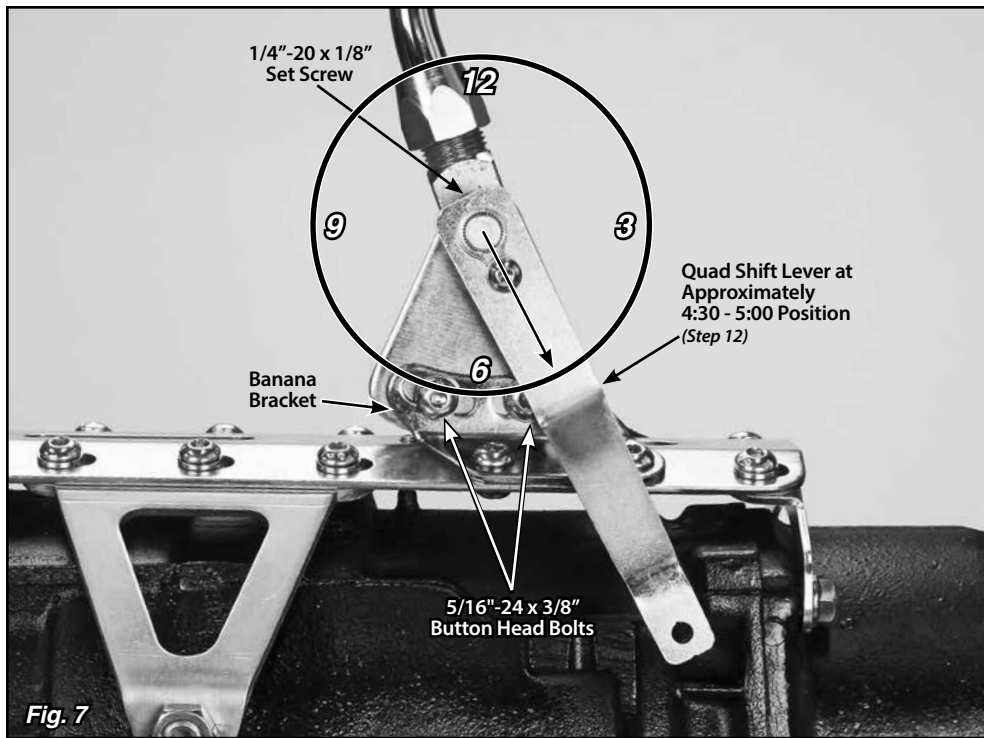

Fig. 7
Step 11: Make sure the two 5/16"-24 x 3/8" button head bolts and lock washers that attach the driver side banana bracket to the shifter assembly (in the curved, slotted holes) are tight. Before tightening the shifter assembly down to the main plate, move the shifter lever through all the gear positions. Make sure the shifter lever and knob will not come in contact with the dash or the seat. The shifter assembly can be tilted forward or backward if needed by loosening the 5/16"-24 x 3/8" button head bolts and lock washers in the curved, slotted holes in the driver side banana bracket. **Fig. 7**
Step 12: Make sure the shifter lever is in the Park position. Temporarily place the quad shift lever in position on the quad lever bushing as shown in **Fig. 7**. Check for interference with the vehicle floor. With the shifter lever in Park, you want the quad shift lever to be at approximately the 4:30 – 5:00 position.